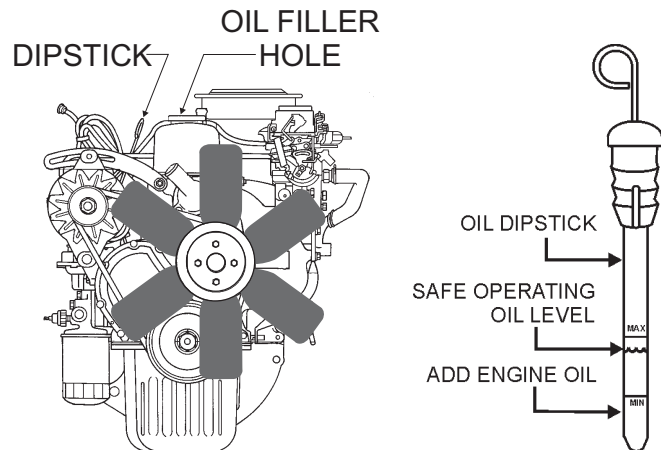

Figure 10. Engine Oil Dipstick
2. Remove the dipstick from its holder (Figure 10) and wipe it clean.